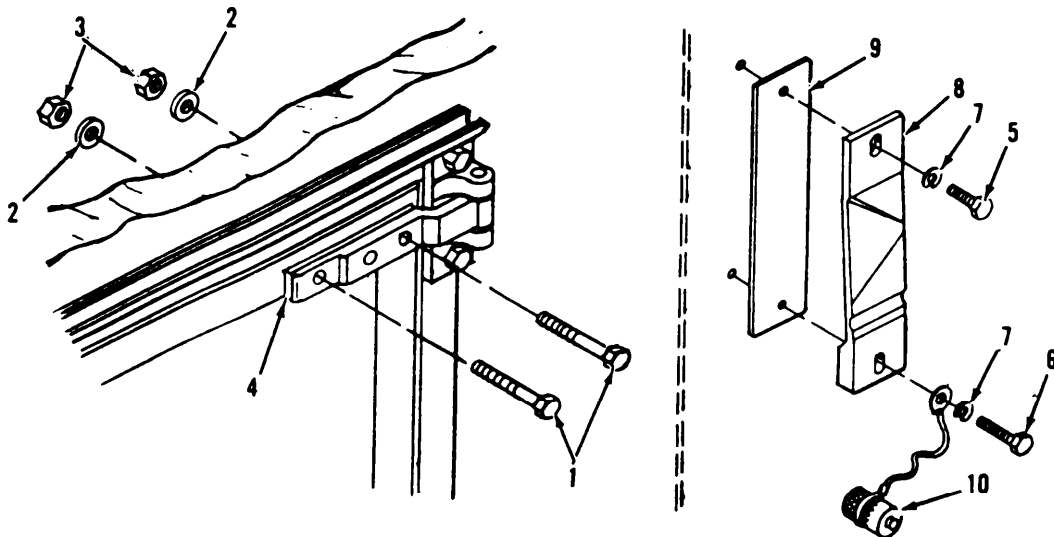

Figure 3-18. Weather Gasket and Seal Pressure Adjustment.
- (4) If there is resistance to the withdrawal at all of the test points, sufficient seal pressure exists on the silicone weather gasket, and adjustments are not necessary.
c. Adjust. (Figure 3-18) Adjustment to increase the seal pressure on the silicone weather gasket can be made on the hinged side of the door and on the roller latch side of the door, as described in the following paragraphs:
- (1) Weather Gasket Pressure Adjustment (Hinge Side). To increase the weather gasket pressure on the hinged side of the door, proceed as follows:
- (a) Open the door and remove and retain three bolts (1), flat washers (2), and self-locking nuts (3) attaching the hinge to the door.
- (b) Insert shim (4), approximately 0.032 inches thick and matching the hinge body in size, between the hinge body and the door.
- (c) Secure the hinge body to the door using three bolts (1), flat washers (2), and self-locking nuts (3).
- (2) Weather Gasket Pressure Adjustment (Latch Side). To increase the weather gasket pressure on the roller latch side of the door, proceed as follows:
- (a) Open the door and remove and retain the hex head screws (5 and 6) and lock washers (7) from the top and bottom hole attaching the keeper (8) to the wall, and remove keeper and shim (9). Remove detent pin (10) from center keeper.